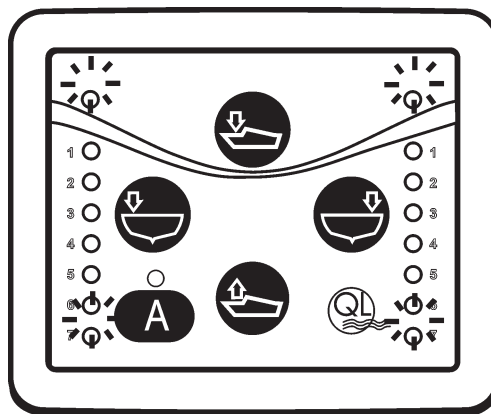

Fig. 28
5. The blades will extend fully, stop, and then retract. When this procedure has been completed correctly, the two upper and two lower LEDs on the control panel will flash twice. This confirms that the calibration has been carried out correctly. See **Fig. 28**.